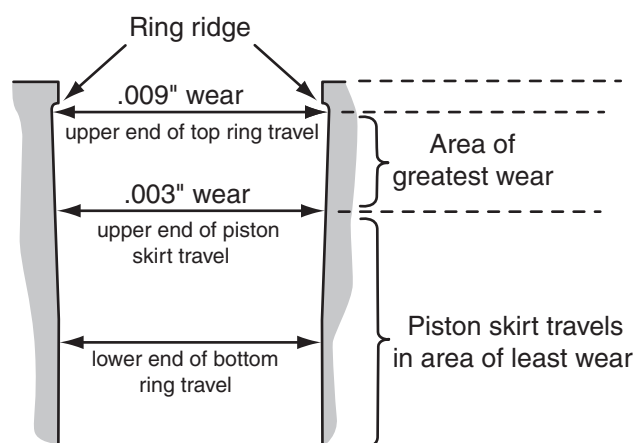

FIGURE 4.65 A ring ridge forms when the cylinder wears.
1. **When a cylinder wears, a ridge forms at the top of the cylinder (Figure 4.65).** Until the